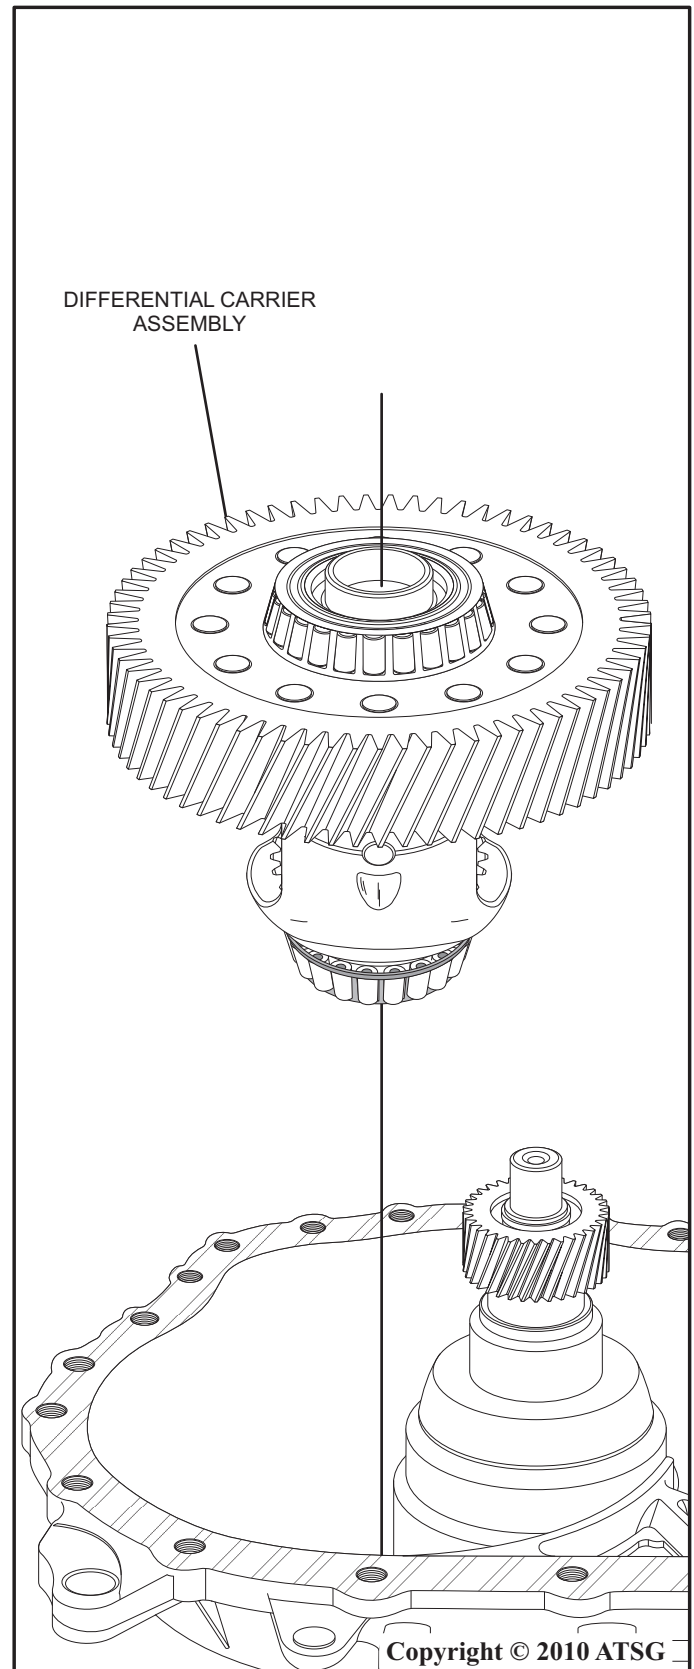

Figure 13
**CORRECTION #2:** Replace the differential assembly. The ring gear is not sold or serviced separately. Use the disassembly and reassembly procedure and refer to Figure 13 for proper disassembly and reassembly of the Ford CVT transaxle for the differential assembly. Refer to factory manual section 307-01A for proper shim and pre-load procedures for the differential assembly.
24. Remove the differential carrier assembly by lifting straight up as shown in figure 13.